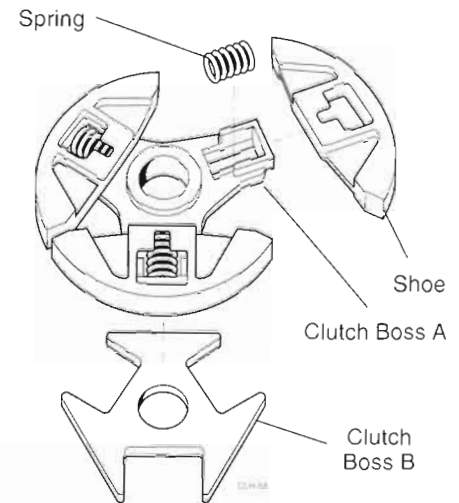

Figure 6.24 757 Clutch Assembly
STEP 2. Using hand pressure only, assemble the clutch shoes and spring(s) to clutch boss "A" in the reverse order of disassembly (Figure 6.24).